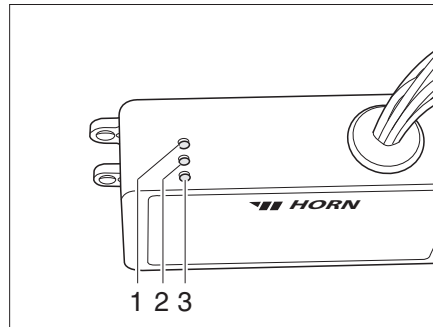

Fig. 84 Control unit
The control unit (Fig. 84) is installed under the bench seat. The control lamps on the control unit have the following meanings:
- Indicator lamp (Fig. 84,2) lights up in green: Regulation in operation.
- Indicator lamp (Fig. 84,1) lights up in red: Waste water tank is heated.
- Indicator lamp (Fig. 84,3) lights up in red: Waste water pipes are heated.